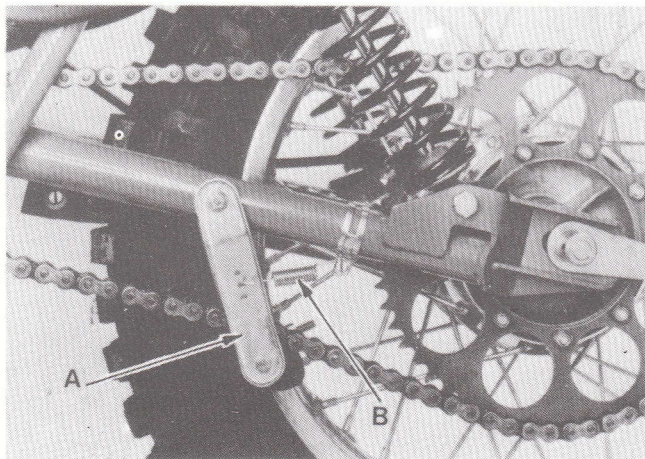

Fig. 13 - Checking chain tension
When the chain tension is correct, there should be a 2 3/4 in. free play on the lower run of the chain, midway between the sprockets. The rear wheel must be clear of the ground, and the drive chain tensioner (A) must be disconnected from the spring (B) while performing this measurement (fig. 13).